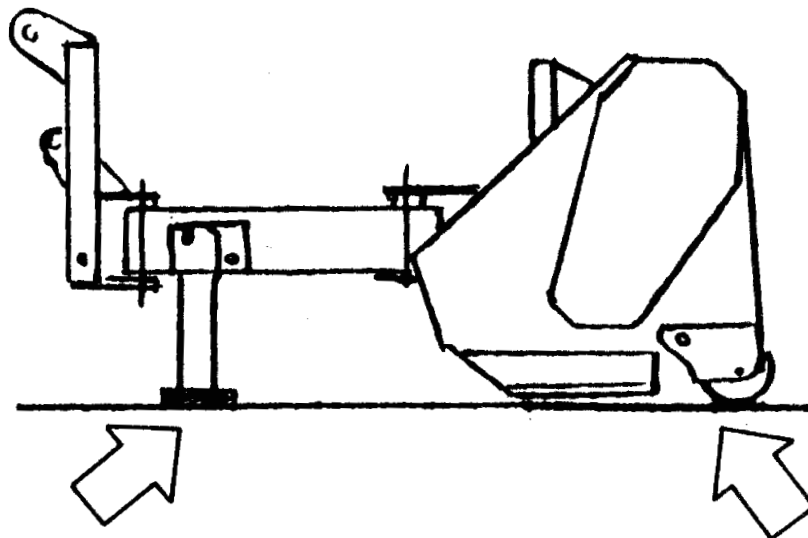

FIG. 16
- Lower the shredder to the ground with the aid of the hydraulic lift of the tractor, after lowering and blocking the stand, closing the arms and lowering the flail head to the ground (FIG. 16).